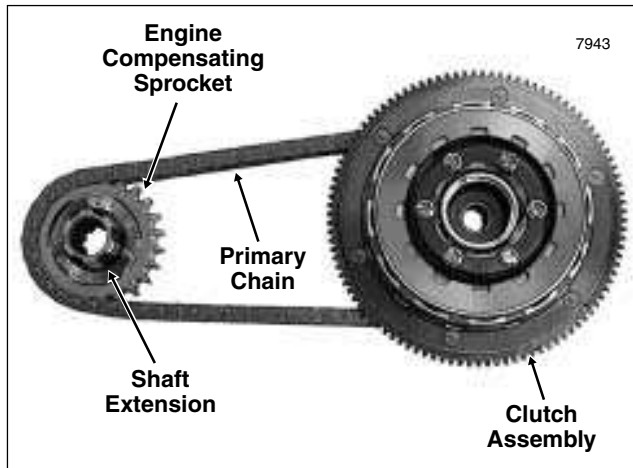

Figure 6-21. Remove Clutch Assembly, Primary Chain, Engine Compensating Sprocket and Shaft Extension
- Remove clutch, primary chain, compensating sprocket and shaft extension as a single assembly. See Figure 6-21.